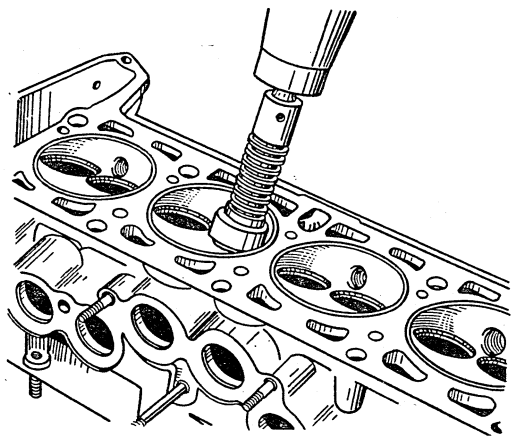

Fig.2-45. Valve Seat Refacing
- put spring A.94069/5 on pilot spindle A.94059, install tapered wheel A.94078 (for exhaust valve seats) or wheel A.94100 (for inlet valve seats) on spindle A.94069, secure the spindle in the grinding machine and reface the valve seat (Fig. 2-45).